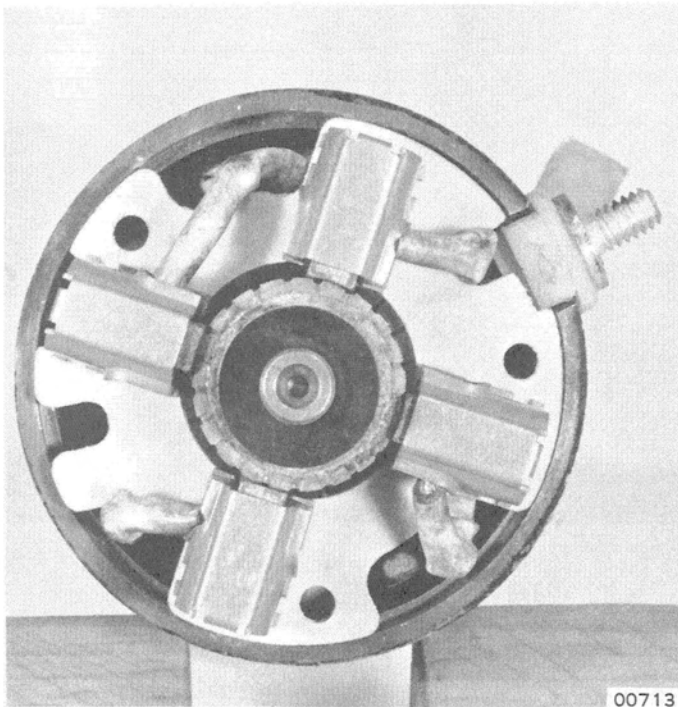

Figure 3. Brush and Brush Holder Aligned
4. Install brushes into brush holder and depress brushes and brush springs while sliding over commutator bars. Check for proper alignment of brush and brush holder, as they will fit only onto field body one way. (Fig. 3)